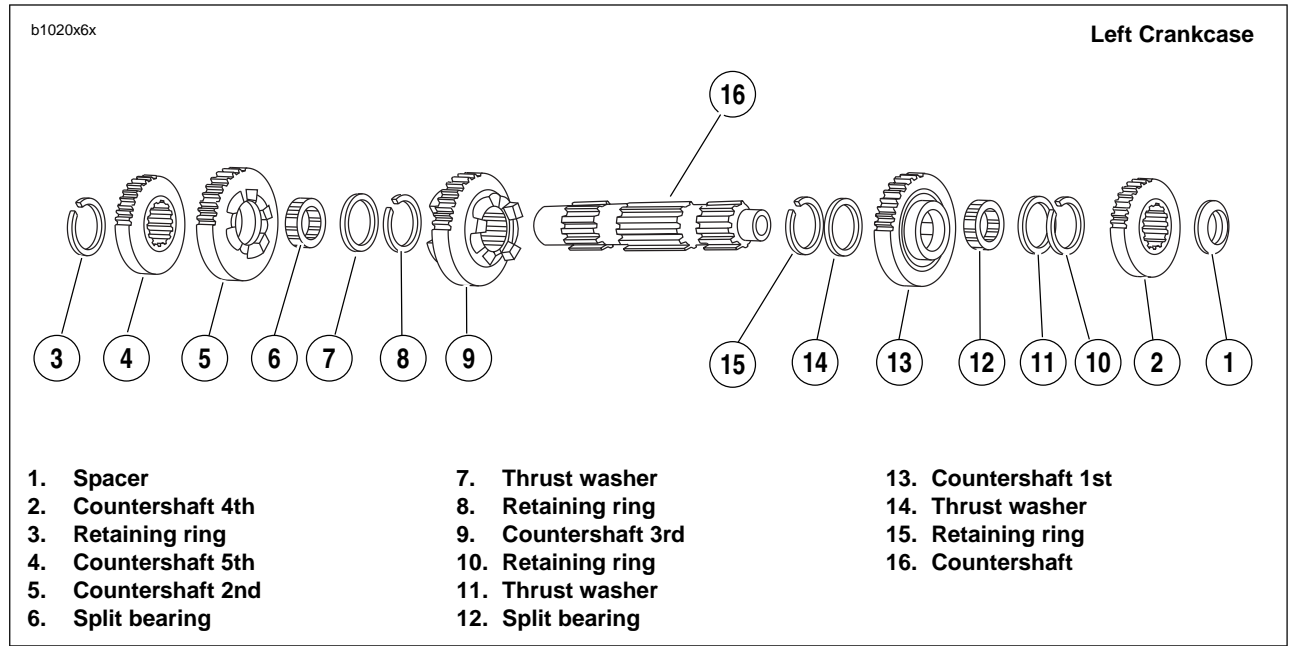

Figure 6-63. Transmission Countershaft Assembly Once Removed from Left Crankcase/Disassembly
1. See Figure 6-63. Remove spacer (1) and countershaft 4th gear (2) from the end of the of the countershaft with internal threads.
2. Using RETAINING RING PLIERS (Part No. J-5586), remove and discard retaining ring (3) next to countershaft 5th gear (4).
- a. Slide countershaft 5th (4), and countershaft 2nd (5) off end of countershaft.
- b. Remove split bearing (6) that was under countershaft 2nd gear (5) and thrust washer (7).
- c. Remove retaining ring (8) on the countershaft and slide countershaft 3rd gear (9) off free end of countershaft.
3. Expand retaining ring (10) located next to countershaft 1st gear (11). Remove retaining ring (10) and thrust washer (11).
- a. Slide countershaft 1st gear (13) off end of shaft.
- b. Remove split bearing (12).
4. Remove thrust washer (14). Expand remaining retaining ring (15) and slide off countershaft.